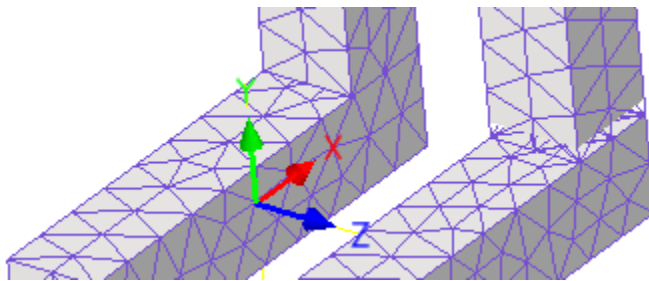

Figure 69 - The UCS coordinate axis is created after pressing Enter **twice**.
4. Press Enter twice. A coordinate system axis is placed “on the model” at the coordinate of the node. See Figure 69.